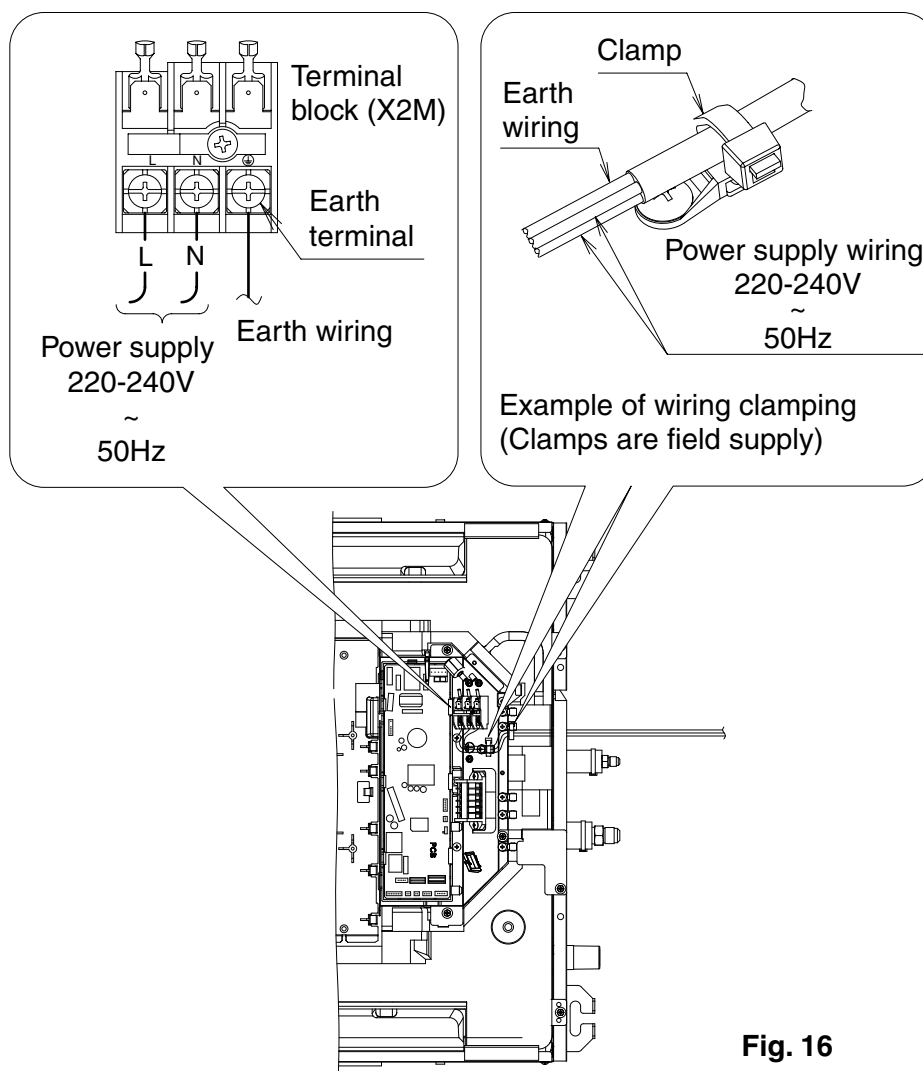

Fig. 16
Connect the earth wiring to the earth terminal. **(Refer to Fig. 16)**
- Securely clamp the power supply wiring to avoid the wiring connection from getting tension. **(e.g. Fig. 16)**